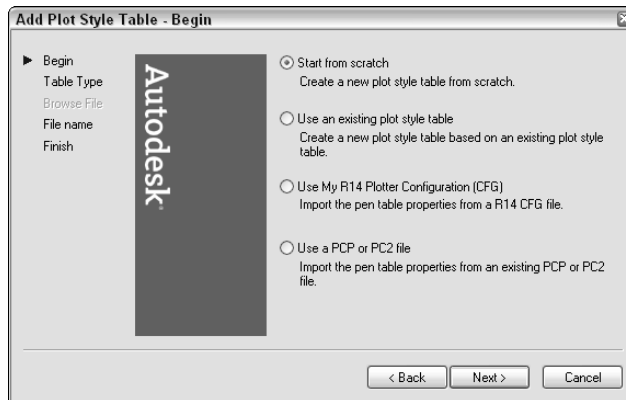

**Figure 17-16:** In the Begin screen of the Add Plot Style Table Wizard, choose the source that you want to use for the new plot-style table.
2. On the Begin screen, shown in Figure 17-16, choose the source that you want to use for the plot-style table. You can start from scratch or use an existing plot-style table. Choose Use My R14 Plotter Configuration (CFG) to use the pen assignments from the `acadrl4.cfg` file. If you have a PCP (Release 12/13) or PC2 (Release 14) configuration file, you can use it to import the settings from that file into the plot-style table. Then click Next.